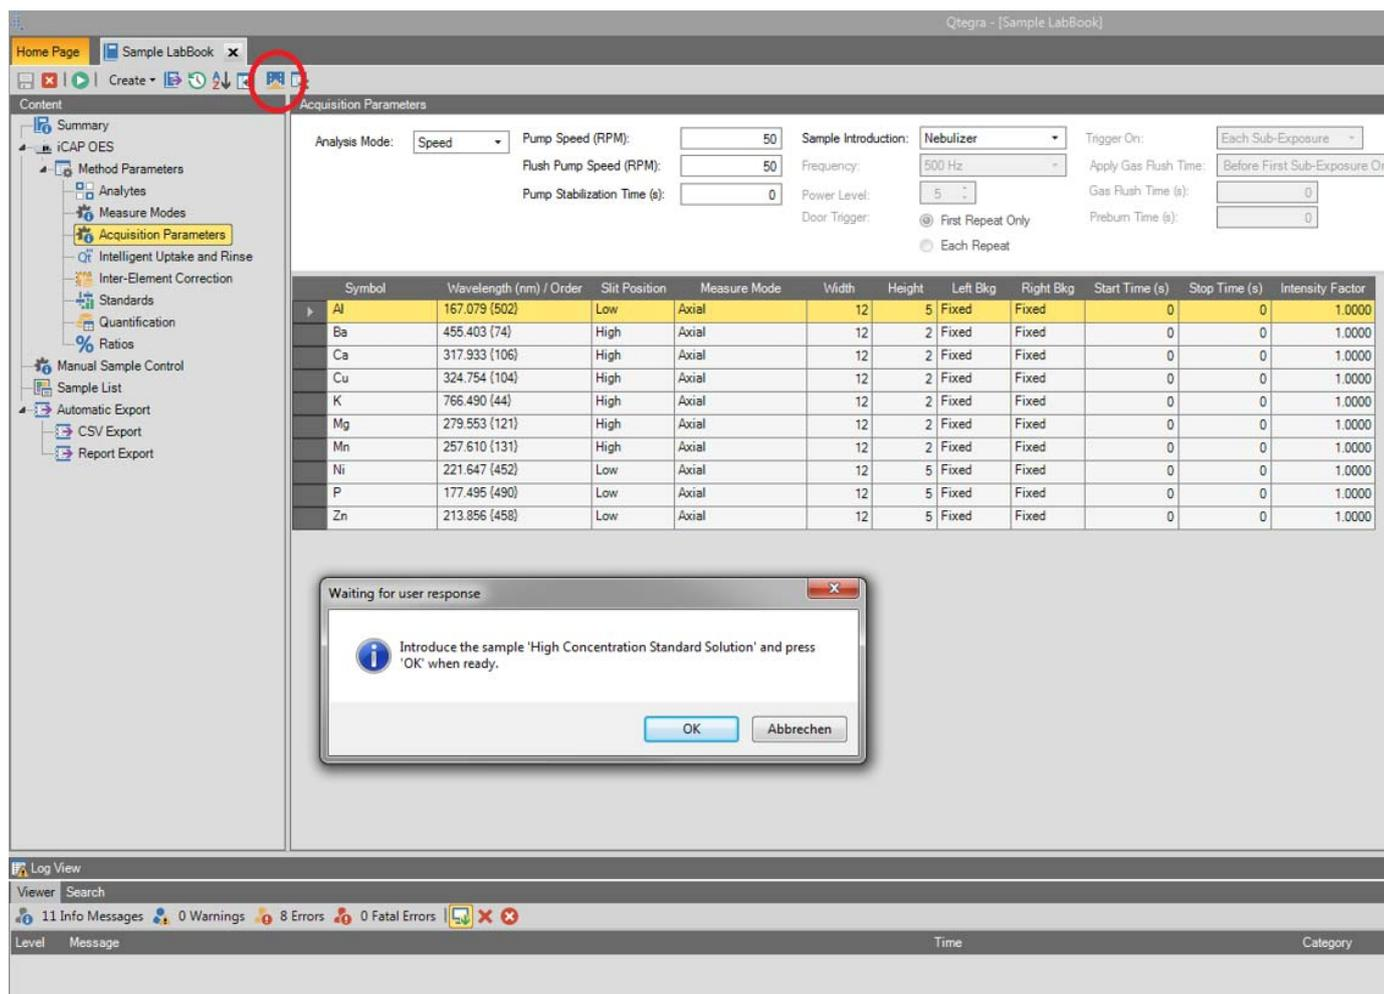

Figure 6-43. AutoPeak procedure
6. Click **OK**. See Figure 6-43.